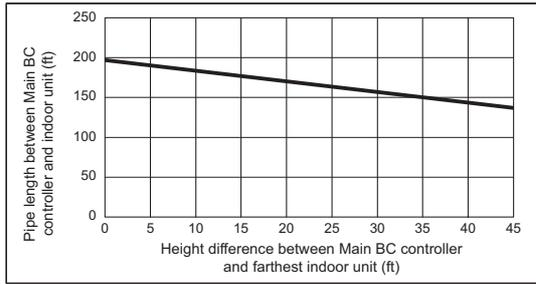

Fig. 2
*2. Details refer to Fig. 2.
*7. When the piping length or the vertical separation exceeds the limit specified in Fig. 2, connect a sub BC to the system.
When using indoor models P54 or larger, the restrictions shown in Fig. 2 cannot be exceeded.